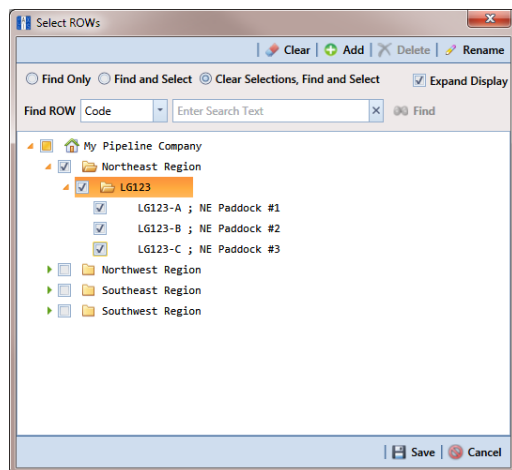

Figure 4-12. Select ROWs
- 1 Click the **Select ROWs** button  to open the *Select ROWs* window (Figure 4-12, page 114).
- 1 Click the **Select ROWs** button  to open the *Select ROWs* window (Figure 4-12, page 114). Select one or more pipeline segments you want to work with by clicking the check box for each pipeline segment. Then click  **Save** to close the window.